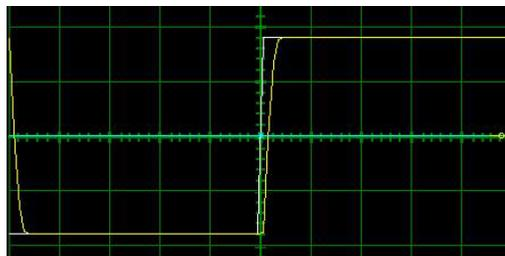

Figure 7 Flux Loop Response
- Proper tuning will look similar to Figure 7. Adjust the Flux Loop Kp and Ki accordingly to remove any overshoot.